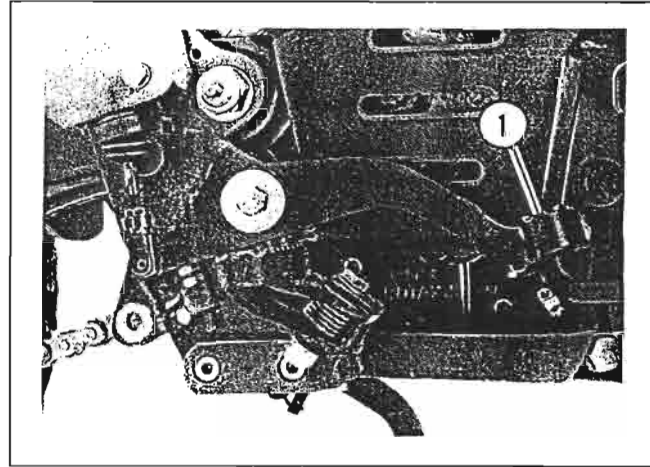

Figure 2-15. Rear Brake Foot Pedal
4. See Figure 2-15. Roll vehicle forward and apply rear brake foot pedal (1). Check that vehicle stops when pedal is applied.